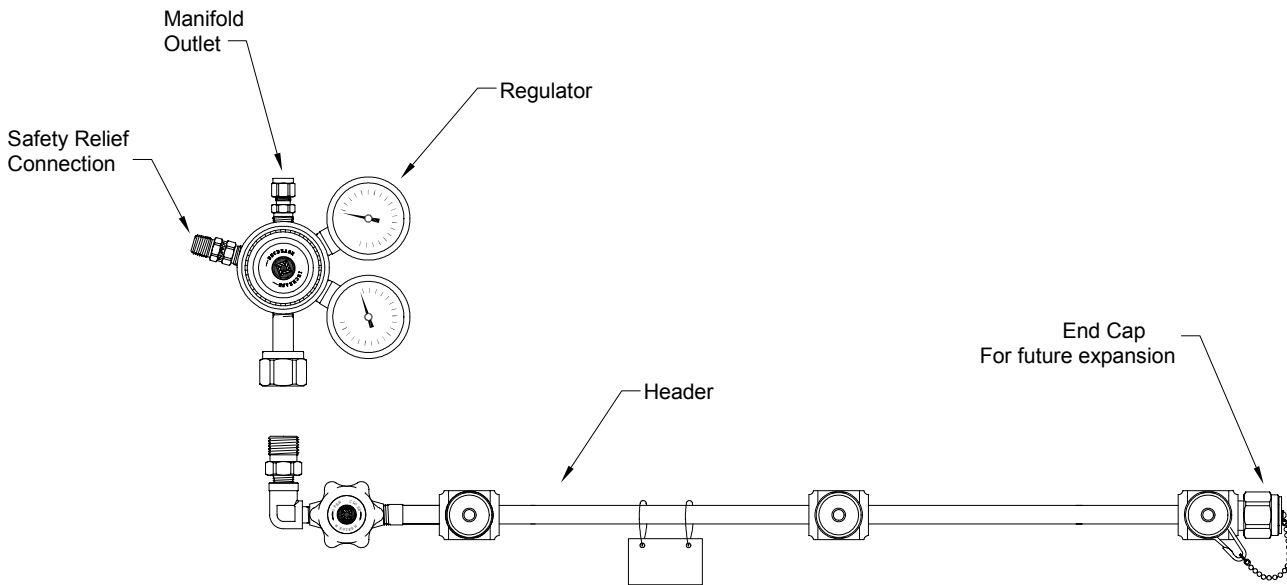

FIGURE 2
1. Assemble the regulator to the header assembly (Figure 2).